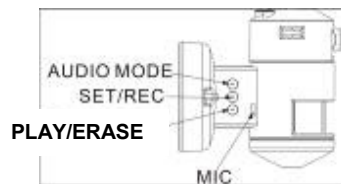

Fig. 10
STEP 4. RECORDING AUDIO MESSAGES (SEE FIG. 10)
1. Press the SET/REC button for 3 seconds, and you will hear a single beep. After the beep, start recording your message by talking into the microphone (see fig. 10). Push the button again to stop recording, and you will hear a series of 2 beeps, meaning the recording is finished. If you do not push the button again after you have recorded the message, the recording will stop automatically after 10 seconds.
- **Play/Erase** : allows you to listen to and erase messages (see fig. 10)